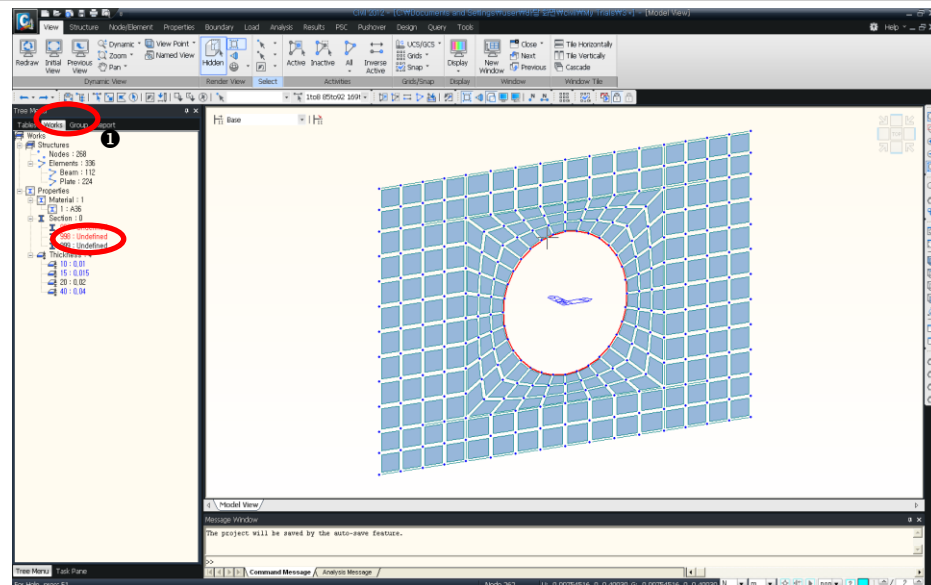

Figure 3.10 Section selection using Works Tree
3. Select the **Works** tab (Fig.3.10–①).